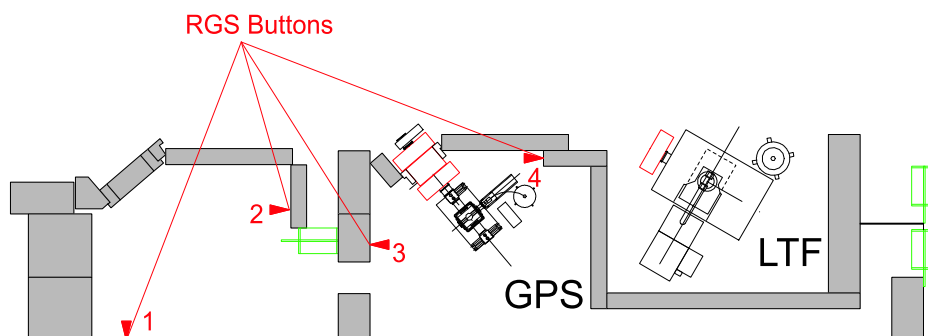

Figure 1: Location of the 4 RGS buttons of the $\pi M3.2$ area
- Check, in the right order, the 4 locations (buttons) indicated on the Figure 1. The locations are also reported on a figure displayed at the door of the area. The location to clear is indicated by a lighted green button, which has to be pressed. At this point you are **responsible** that nobody is staying in the area.